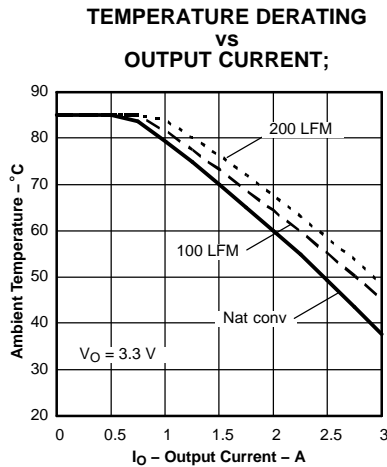
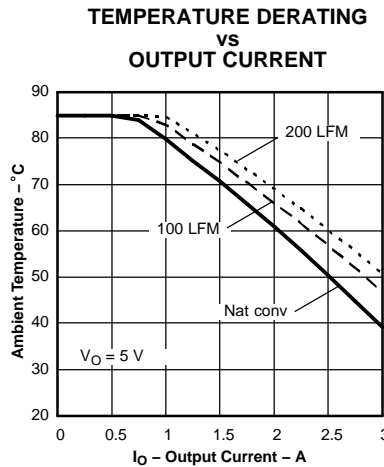
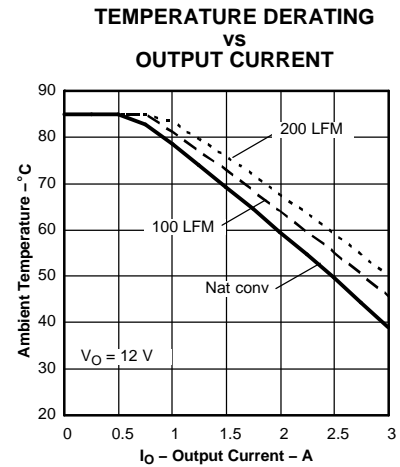

Figure 21.
Figure 22.
Figure 23.
- (8) The temperature derating curves represent the conditions at which internal components are at or below the manufacturer's maximum operating temperatures. Derating limits apply to modules soldered directly to a 100 mm x 100 mm, double-sided PCB with 2 oz. copper. Applies to Figure 21, Figure 22, and Figure 23.